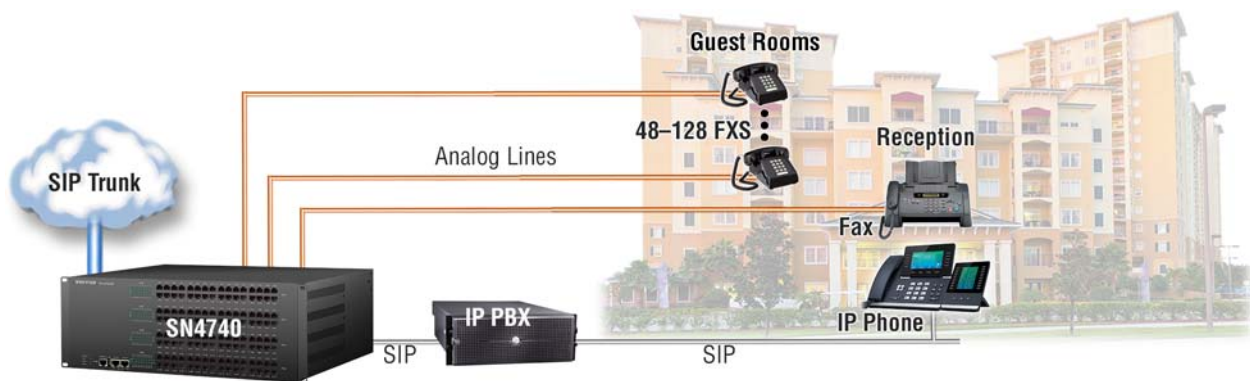

Figure 7. Hospitality venues: hotels, motels, etc.
- Hospitality venues such as hotels, motels, etc. (see figure 7 on page 23)